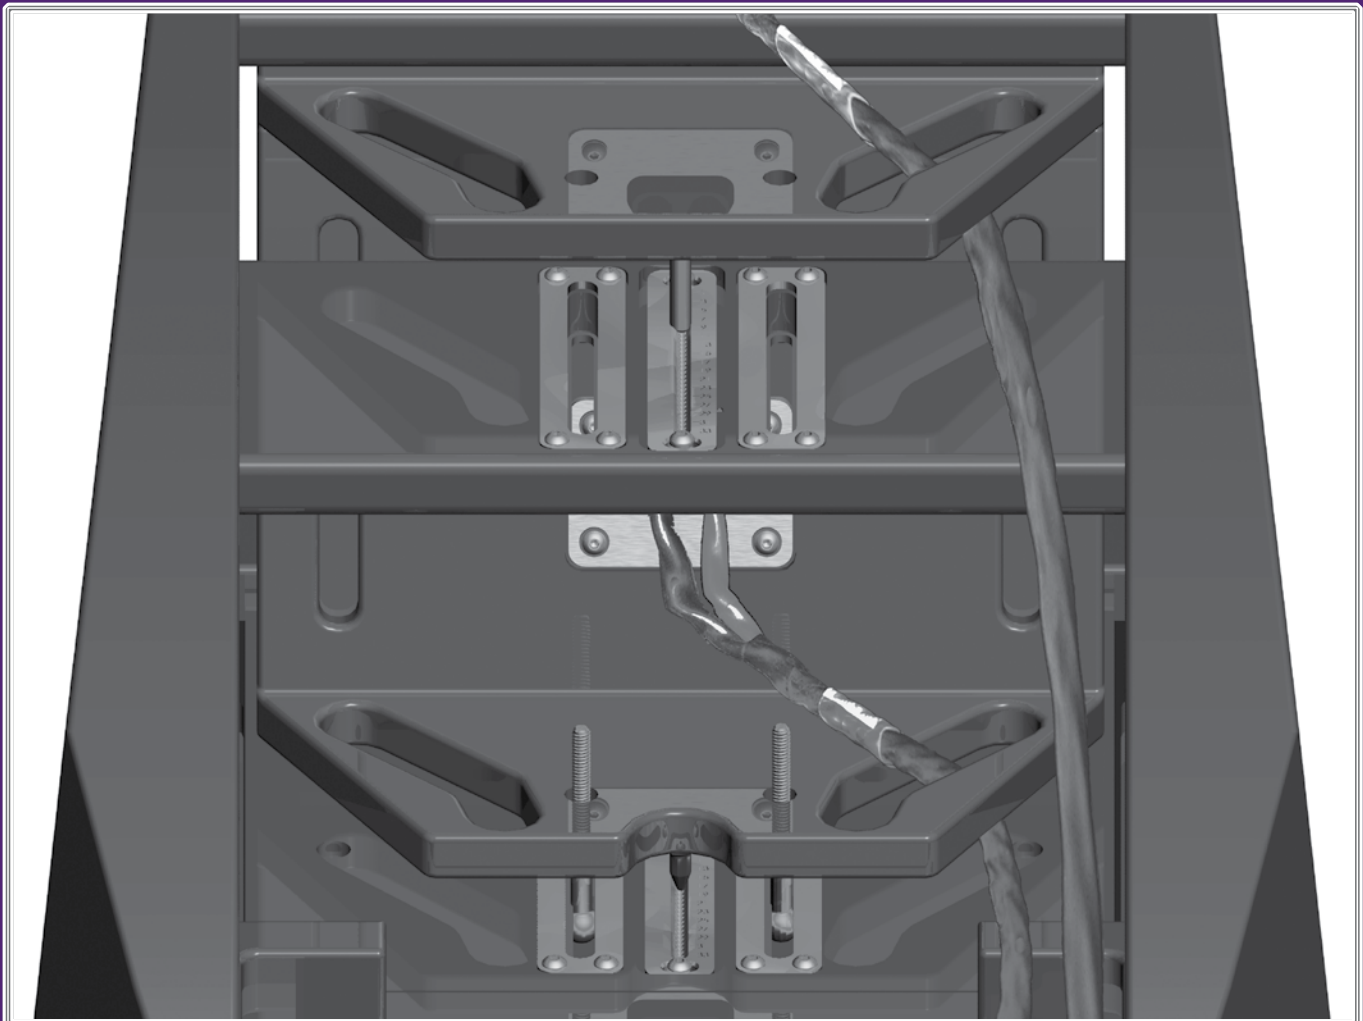

FIGURE 17 - CABLE DRESSING.
- Locate the cable marked "Lower Mid." Dress this cable through the handle opening and connect this cable to the lower midrange module (LMRM) loudspeaker binding post (see Figure 17).
speaker binding post (see Figure 17).